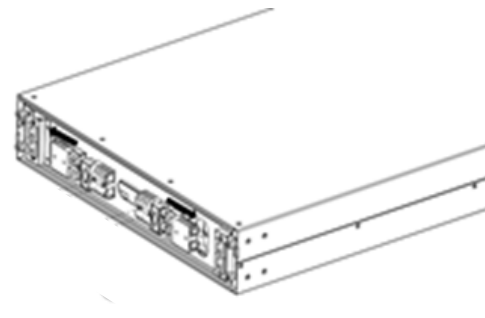

Figure 2
- 2) Separate the black Anderson connectors for the battery modules. (Figure 2)